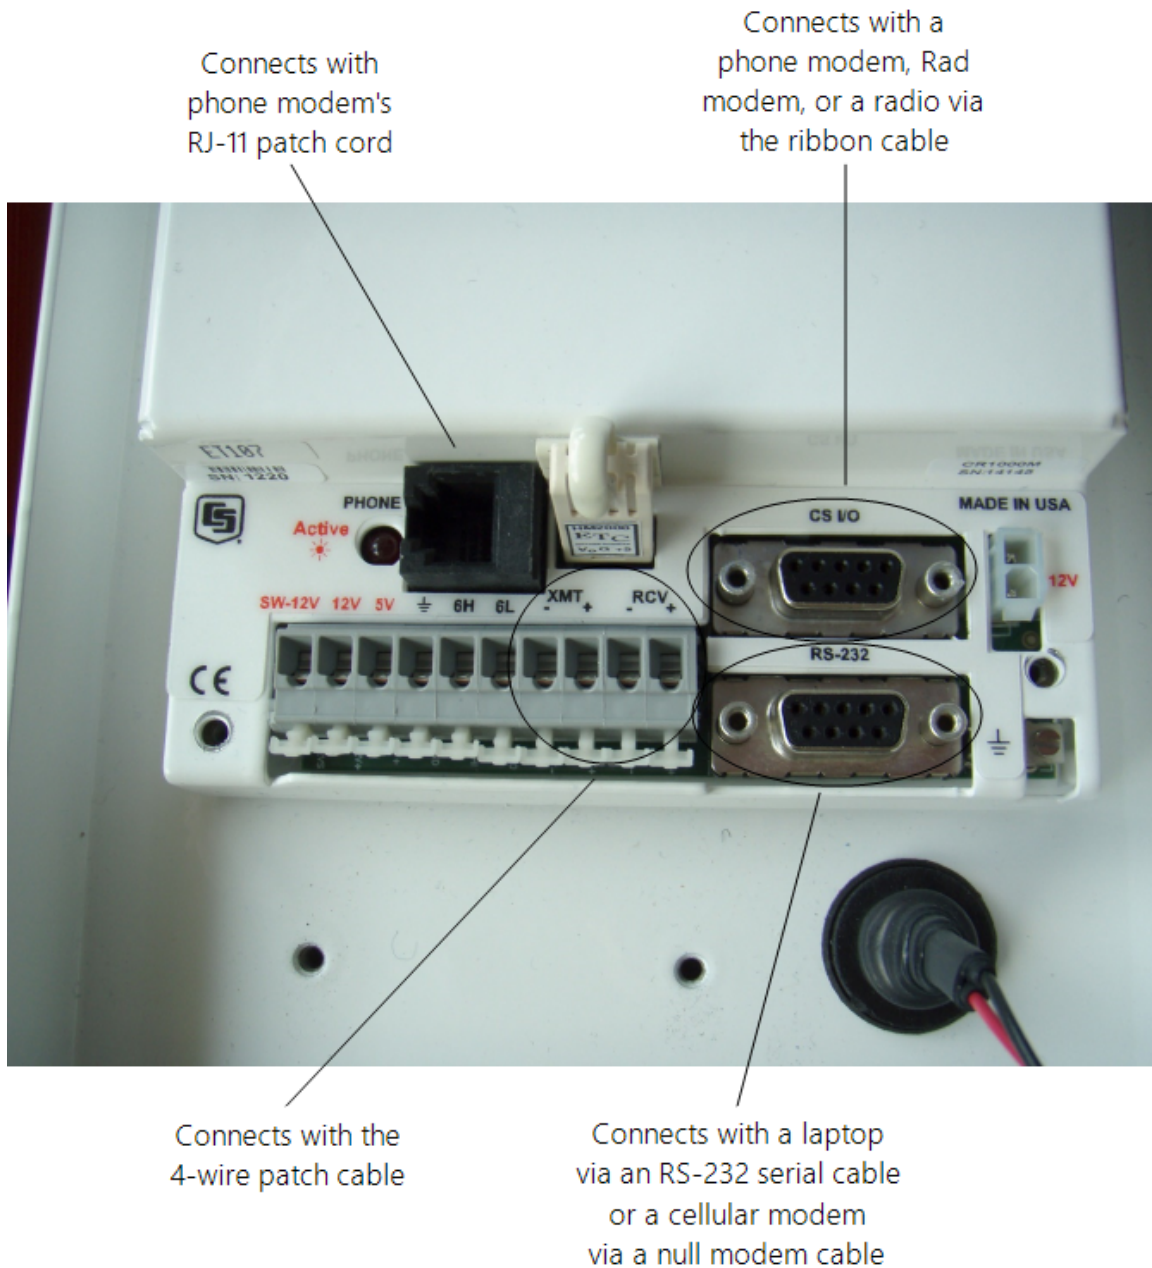
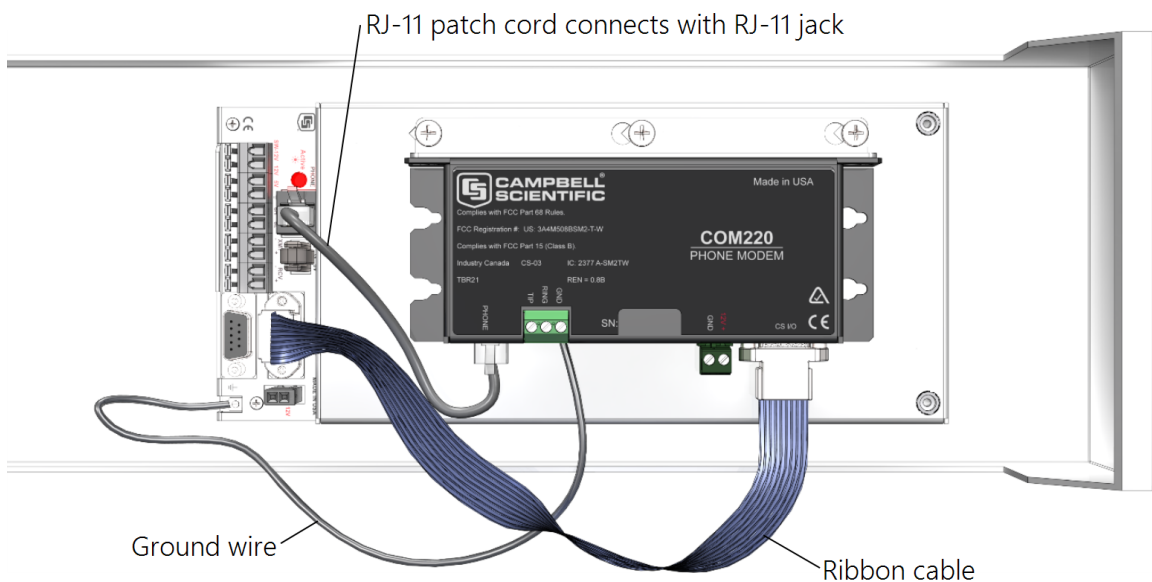

FIGURE 6-22. Close-up of the terminals and 9-pin ports in the ET107 (battery not shown)
FIGURE 6-23. Phone modem mounting and connections (battery not shown)
The ET107 station does not require an interface device for direct RS-232 communication. The inside of the enclosure has a RS-232 and CS I/O port available for communication (see FIGURE 6-22 (p. 37)). Most standard communication options use the CS I/O port leaving the RS-232 port free for direct communication with a laptop or desktop computer using a standard RS-232 serial cable. The data logger used in the ET107 station can communicate with more than one device at a time allowing troubleshooting to be done in the field with a laptop while remote communication devices are accessing the station.
Use the following procedure to install the phone modem (FIGURE 6-23 (p. 38)).
2. Connect the modem 9-pin port to the enclosure CS I/O port with the ribbon cable supplied with the enclosure (FIGURE 6-22 (p. 37), FIGURE 6-23 (p. 38)).
3. Connect the modem RJ-11 jack to the enclosure RJ-11 jack with the RJ-11 patch cord (FIGURE 6-23 (p. 38)).